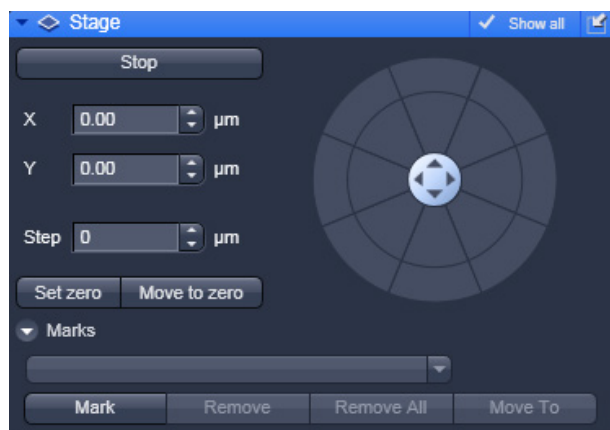

Fig. 296 Stage panel
- Click on the **Stage** tool tab to open the **Stage** panel (Fig. 296).